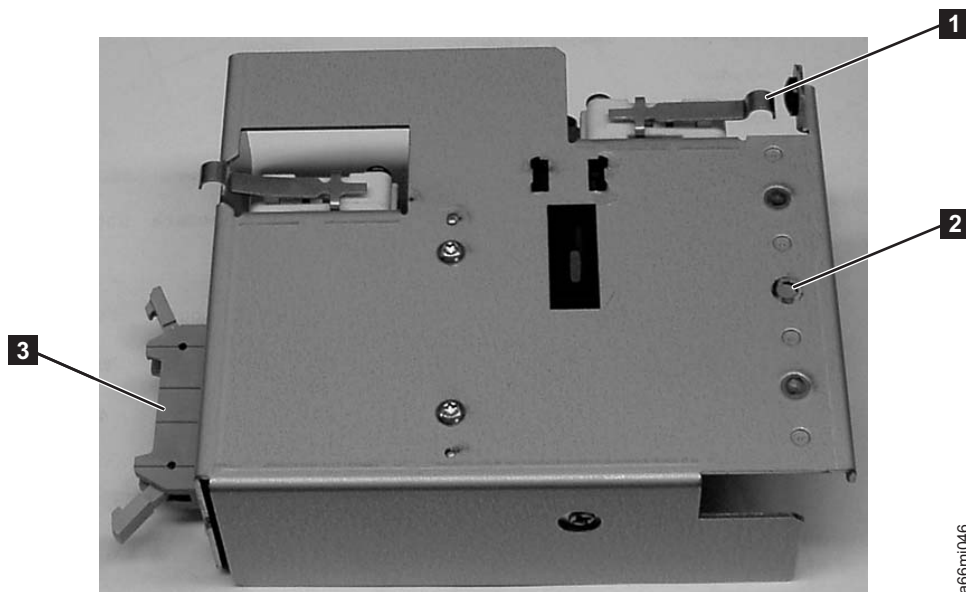

Figure 8-24. I/O Station Lock Assembly (top view)
4. Remove the mounting screw (**2** in Figure 8-24 on page 8-28), and set it aside.
5. Disconnect the I/O Station cable (**3** in Figure 8-24 on page 8-28) from the lock assembly.
- c. Ensure the I/O Station switch actuator lever (**1** in Figure 8-24 on page 8-28) is not stuck under the enclosure sheet metal and operates without binding on the enclosure.